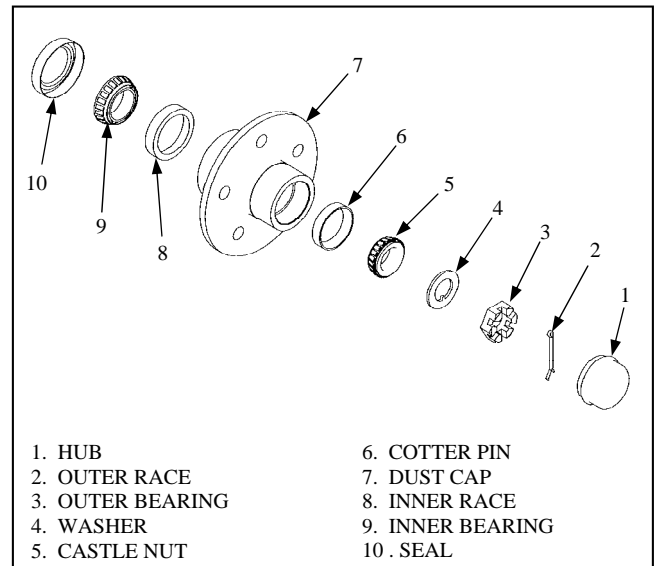

Figure 5-12. Front Hub Assembly
5.3.8.2 Front Hub Assembly. To remove the front hub assembly, follow the maintenance steps in Paragraph 5.3.8.1 before beginning the next steps. See Figure 5-12.
- a. Remove dust cap (1) by lightly tapping with a rubber hammer.
- b. Remove cotter pin (2), castle nut (3), and washer (4).
- c. Grasp front hub (7) and pull outward firmly. Ensure that bearing (5) doesn't fall from hub and strike the ground.
- d. Remove bearing (5), seal (10), and bearing (9) from the front hub (7).
- e. Using a suitable H-frame press, remove bearing races (6) and (8).
- g. Reassemble in reverse order. Castle nut (3) should be tightened until the hub assembly rotates barely past free.